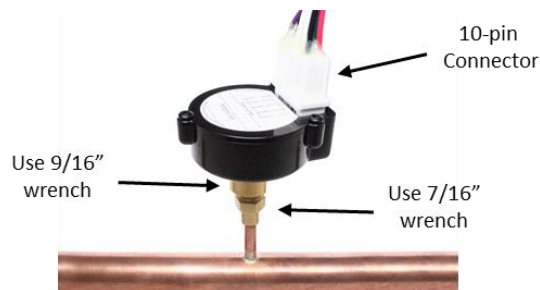

Figure 2-7 Installed USHX with attached 10-pin wiring harness
When torque wrench not available use 7/16" and 9/16" wrenches to tighten the USHX as shown in **Figure 2-7**. Using two wrenches will ensure that the brazed joint is not damaged during tightening.
9. Attach the wiring harness (10-pin connector) to the USHX as shown in **Figure 2-7**.